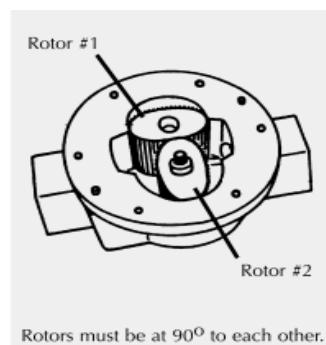

Fig 3
3) Replace the rotor (with the gear) on the short shaft in the housing then place the 2nd rotor onto the shaft so as the rotors are at 90° to each other. (Refer Fig 3). Check rotor operation by turning either of the rotors. If the rotors are not in mesh correctly or do not move freely remove one of the rotors and replace it correctly at 90° to the other rotor. Recheck the operation of the rotors.